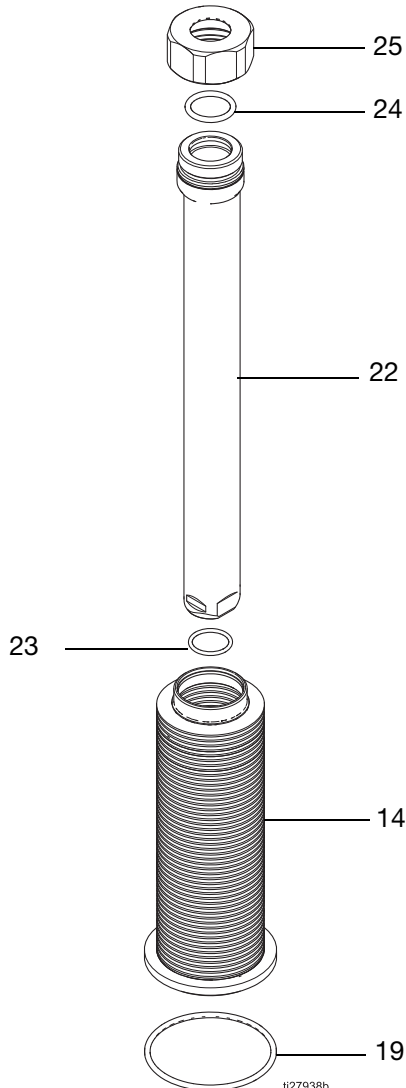

FIG. 4. Disassemble or Assemble the Bellows
5. Remove the bellows o-ring (19).
NOTE: The bellows assembly includes the bellows nut (25), the bellows (14), o-rings (23, 24), and the bellows sleeve (22). To disassemble, see **Disassemble the Bellows Assembly** on page 8 and FIG. 4 on page 9.
7. Remove the four capscrews (33) from around the base of the bellows chamber (13). Lift the bellows chamber straight up off the fluid outlet housing (8). Be careful not to damage the piston rod (3).
See FIG. 4, page 9.
7. Remove the bellows o-ring (19). See FIG. 4, page 9.
8. Remove the bellows assembly from the bellows chamber (15). Remove the o-ring (23).
9. If the bellows has failed, also remove the breather valve (28) from the top plate. Clean the fluid path of any clogged paint.